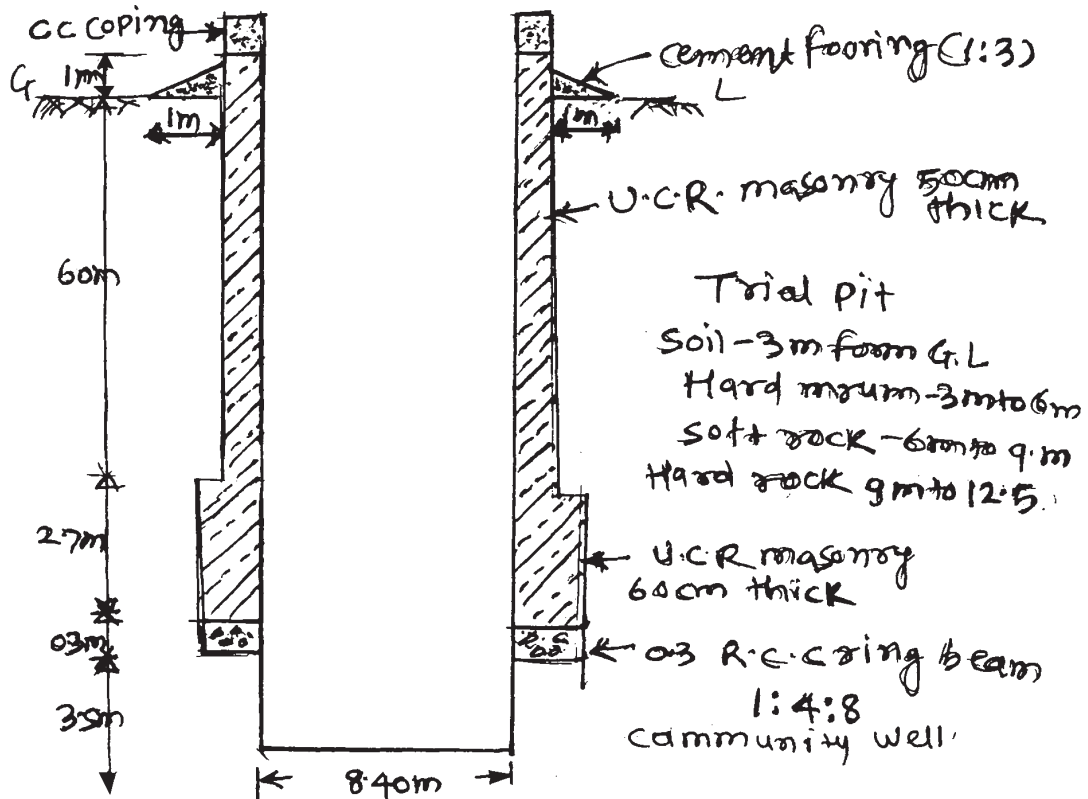

Fig. No. 2
- b) Calculate the quantity of excavation and UCR masonry work and enter in standard measurement sheet with brief description of item of work for community well as shown in Fig. No. 2.